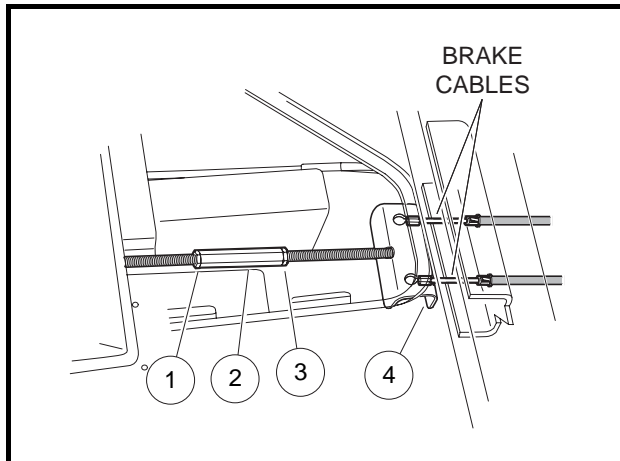

Figure 6-1 Loosen Turnbuckle
4. Loosen the two jam nuts (1 and 3) on either side of turnbuckle (2) (**Figure 6-1, Page 6-2**). Note that the forward jam nut (1) is a left-hand thread. Thread each nut approximately 1/2 inch (12.7 mm) away from the turnbuckle.
5. Loosen turnbuckle (2) to release tension on the equalizer bracket (4) that pulls on the heads of the brake cables.